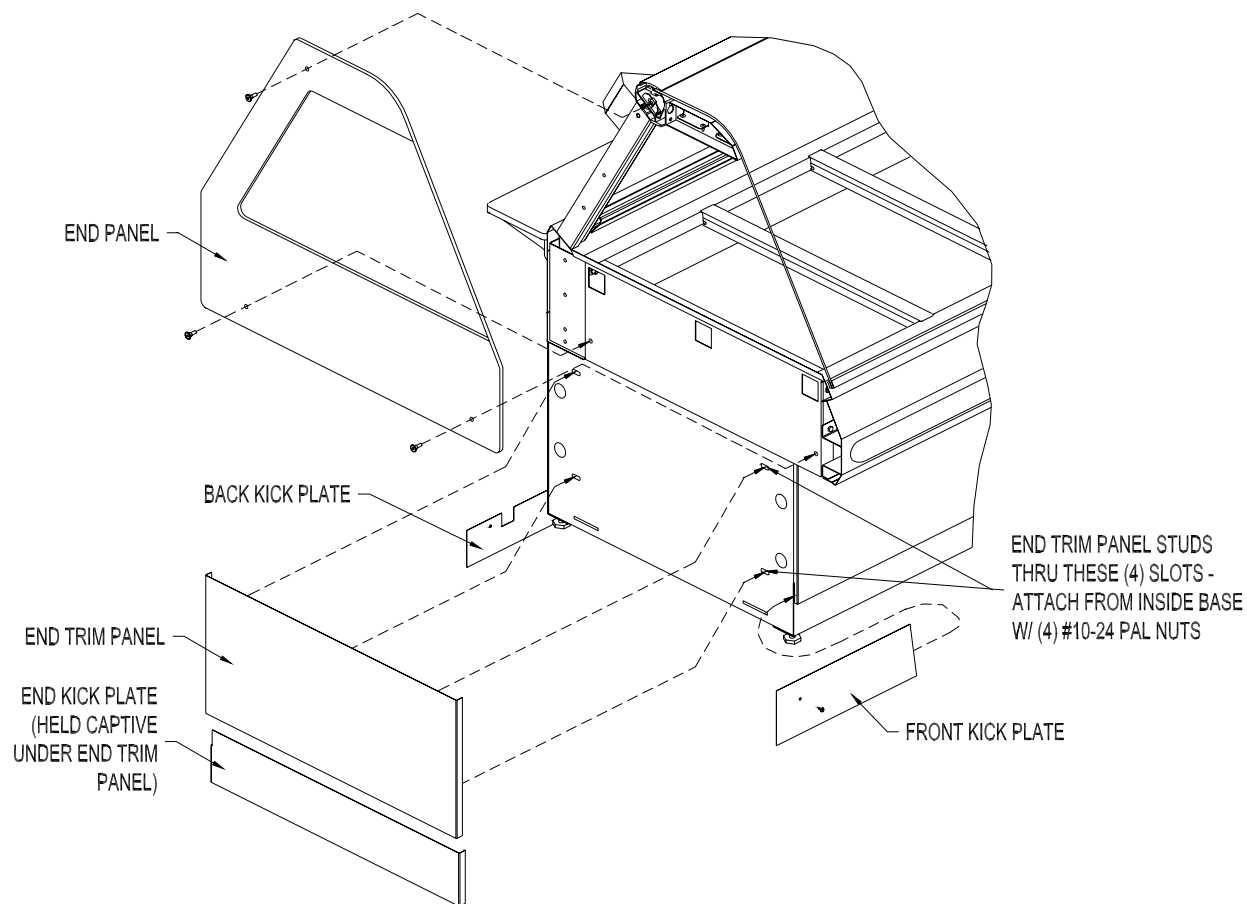

Figure 2. Floor Model - End Kick Plate & End Panel Mounting
NOTE: None of the end components shown in Figure 2 should be attached to adjoining case ends
1. Slide the front kick plate (the wider of the two) behind the lower finished front panel of the case (see Figure 2).
6. Place the End Kick Plates in position (see Figure 2).
1. Now, attach the End Trim Panels to the base ends. The studs on the Trim Panels pass through the mounting holes in the base ends (see Figure 2). Both End Trim Panels are the same.
3. Attach the End Panels to the ends of the case(s) as shown in Figure 2 using the shoulder screws provided. For Glass End Panels only, slide the plastic bushings provided over the shoulder screws before inserting the screw into the glass panel. Be careful that the screws do not bind in the holes in the glass panel.